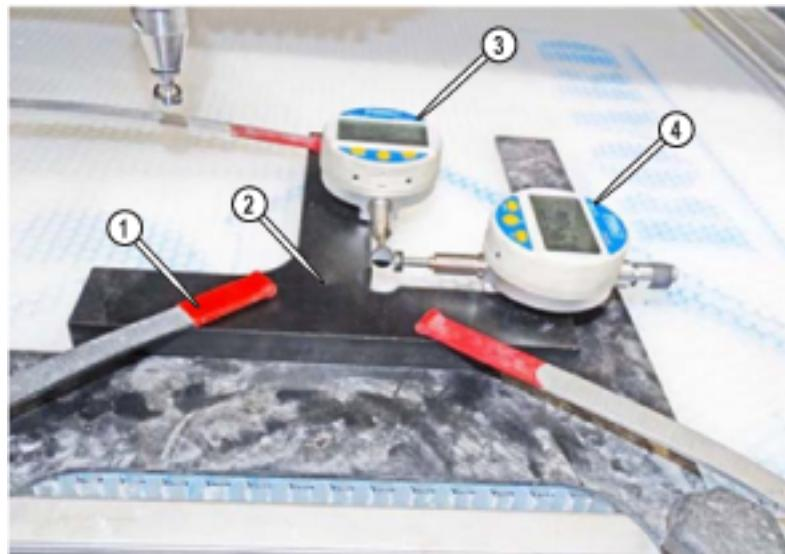

Figure 46
8. Place the **indicator holder assembly** onto the **tank slats**. See (Figure 45) for an example of OMAX/ MAXIEM fixturing. See (Figure 46) for an example of MicroMAX fixturing.